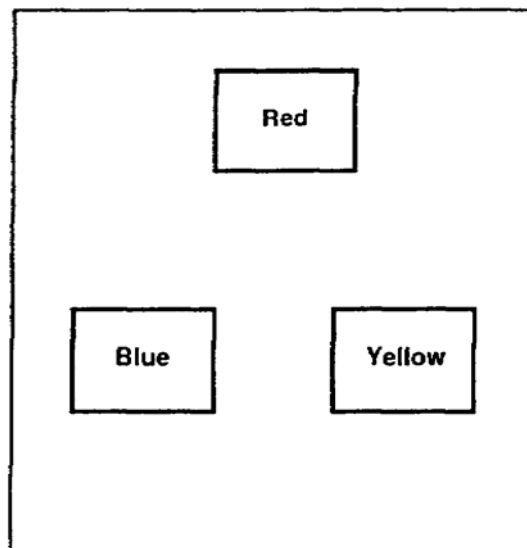

Figure 2-1. Primary colors
(1) Primary colors. There are three primary colors (Figure 2-1). They are blue, red, and yellow.